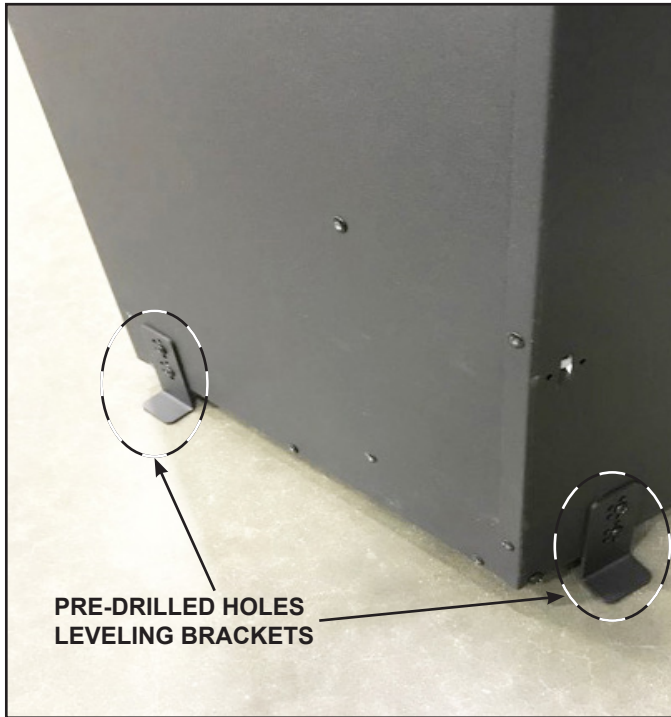

Figure 4.2 Pre-drilled Hole Locations
Install leveling brackets (4) by aligning them to the preset holes at the base of the appliance. Use two (2) screws (ST4 x 8) per bracket to secure the appliance. See Figure 4.2.